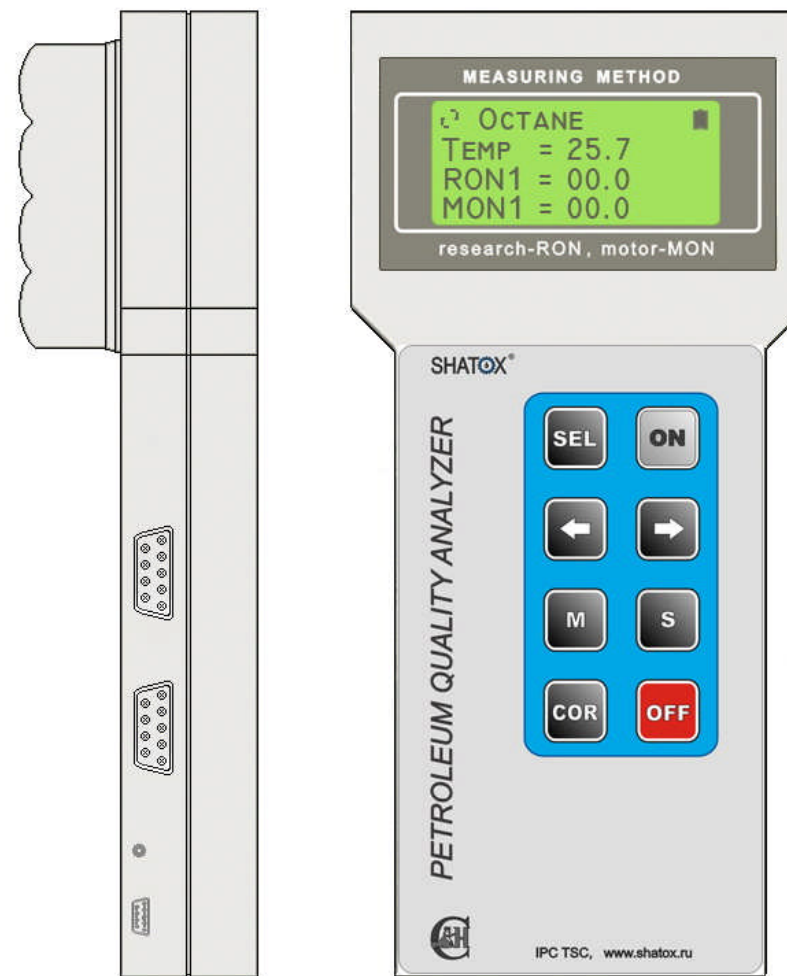

Figure 2. Appearance of the instrument (electronic module)
2.3.4. The instrument electronic computing module processes detector signals, performs all necessary calculations, and constantly tests the main function modules of the instrument. The appearance of the electronic calculator is presented in Figure 2.